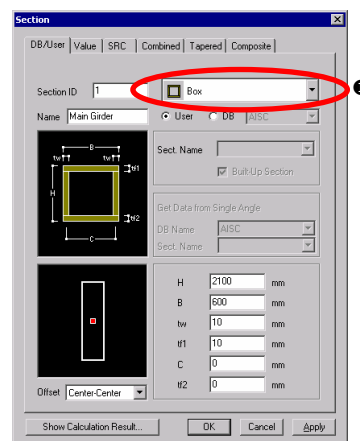

Figure 4.7 Section Data Dialog Box
3. Confirm "**1**" in the **Section ID** field of the **DB/User** tab (Figure 4.7).
5. Select "**Box**" in the **Section Shape** selection field (Figure 4.7 ①).
15. Select "**I-Section**" in the **Section Shape** selection field (Figure 4.7 ①).